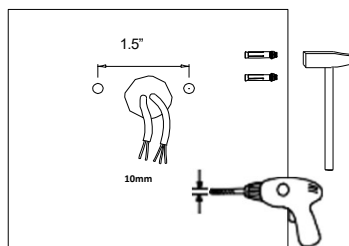

Figure 17
1. Drill 2 holes 1.5" apart around the input power wires. **See Figure 17.**